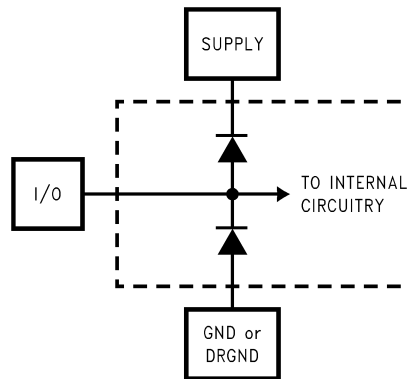

Figure 1.
- (1) The inputs are protected as shown below. Input voltage magnitudes above  $V_A$  or below GND will not damage this device, provided current is limited per (1). However, errors in the A/D conversion can occur if the input goes above  $V_A$  or below GND by more than 100 mV. As an example, if  $V_A$  is 4.75V, the full-scale input voltage must be  $\leq 4.85V$  to ensure accurate conversions. See Figure 1
- (2) To ensure accuracy, it is required that  $|V_A - V_D| \leq 100\text{ mV}$  and separate bypass capacitors are used at each power supply pin.
- (3) With the test condition for  $V_{REF} = +2.0V$  (4VP-P differential input), the 12-bit LSB is 977  $\mu\text{V}$ .
- (4) Typical figures are at  $T_A = T_J = 25^\circ\text{C}$ , and represent most likely parametric norms. Test limits are specified to TI's AOQL (Average Outgoing Quality Level).
- (5) Integral Non Linearity is defined as the deviation of the analog value, expressed in LSBs, from the straight line that passes through positive and negative full-scale.
- (6) Optimum performance will be obtained by keeping the reference input in the 1.8V to 2.2V range. The LM4051CIM3-ADJ (SOT-23 package) is recommended for this application.
- (2) To ensure accuracy, it is required that  $|V_A - V_D| \leq 100$  mV and separate bypass capacitors are used at each power supply pin.
- (3) With the test condition for  $V_{REF} = +2.0V$  (4VP-P differential input), the 12-bit LSB is 977  $\mu V$ .
- (4) Typical figures are at  $T_A = T_J = 25^\circ C$ , and represent most likely parametric norms. Test limits are specified to TI's AOQL (Average Outgoing Quality Level).
- (5) Typical figures are at  $T_A = T_J = 25^\circ C$ , and represent most likely parametric norms. Test limits are specified to TI's AOQL (Average Outgoing Quality Level).
- (6)  $I_{DR}$  is the current consumed by the switching of the output drivers and is primarily determined by load capacitance on the output pins, the supply voltage,  $V_{DR}$ , and the rate at which the outputs are switching (which is signal dependent).  $I_{DR} = V_{DR}(C_0 \times f_0 + C_1 \times f_1 + \dots + C_{11} \times f_{11})$  where  $V_{DR}$  is the output driver power supply voltage,  $C_n$  is total capacitance on the output pin, and  $f_n$  is the average frequency at which that pin is toggling.
- (7) Excludes  $I_{DR}$ . See previous note.
- (1) The inputs are protected as shown below. Input voltage magnitudes above  $V_A$  or below GND will not damage this device, provided current is limited per 0. However, errors in the A/D conversion can occur if the input goes above  $V_A$  or below GND by more than 100 mV. As an example, if  $V_A$  is 4.75V, the full-scale input voltage must be  $\leq 4.85V$  to ensure accurate conversions. See Figure 1
- (4) Timing specifications are tested at TTL logic levels,  $V_{IL} = 0.4V$  for a falling edge and  $V_{IH} = 2.4V$  for a rising edge.
- (5) Typical figures are at  $T_A = T_J = 25^\circ\text{C}$ , and represent most likely parametric norms. Test limits are specified to TI's AOQL (Average Outgoing Quality Level).